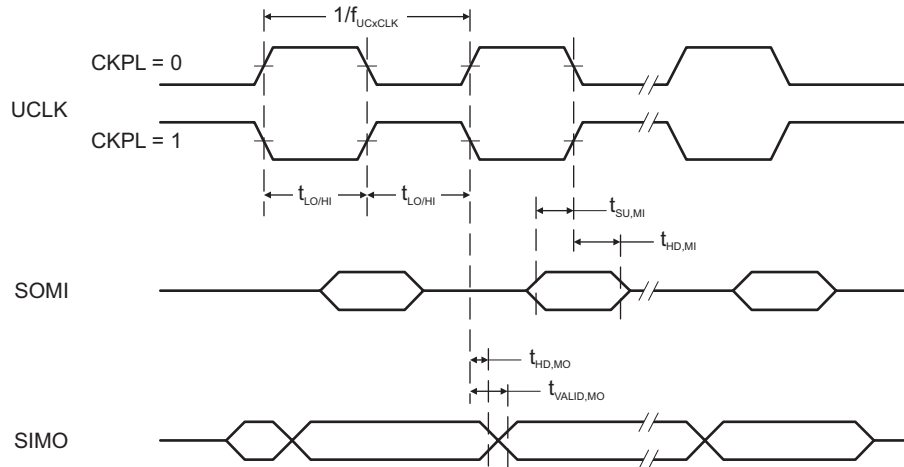
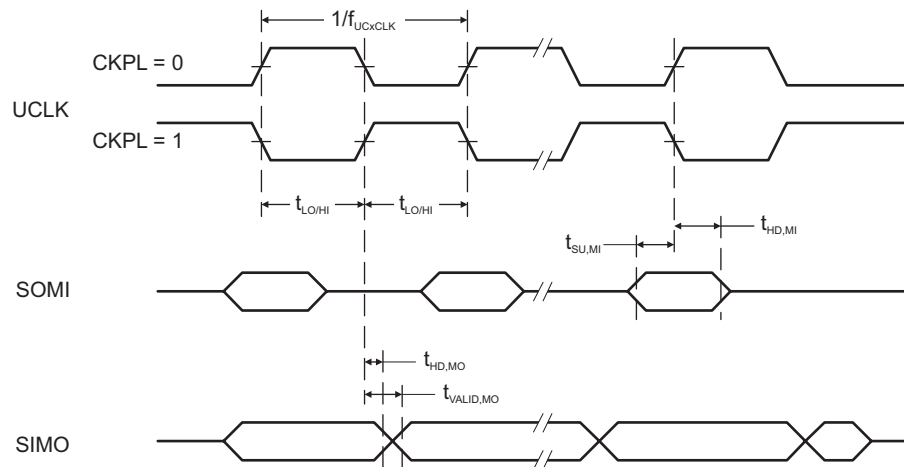

Figure 5-12. SPI Master Mode, CKPH = 0
Figure 5-13. SPI Master Mode, CKPH = 1
(see Figure 5-12 and Figure 5-13)
(2) Specifies the time to drive the next valid data to the SIMO output after the output changing UCLK clock edge. Refer to the timing diagrams in Figure 5-12 and Figure 5-13.
(3) Specifies how long data on the SIMO output is valid after the output changing UCLK clock edge. Negative values indicate that the data on the SIMO output can become invalid before the output changing clock edge observed on UCLK. Refer to the timing diagrams in Figure 5-12 and Figure 5-13.
- (2) Specifies the time to drive the next valid data to the SOMI output after the output changing UCLK clock edge. Refer to the timing diagrams in Figure 5-12 and Figure 5-13.
- (3) Specifies how long data on the SOMI output is valid after the output changing UCLK clock edge. Refer to the timing diagrams in Figure 5-12 and Figure 5-13.